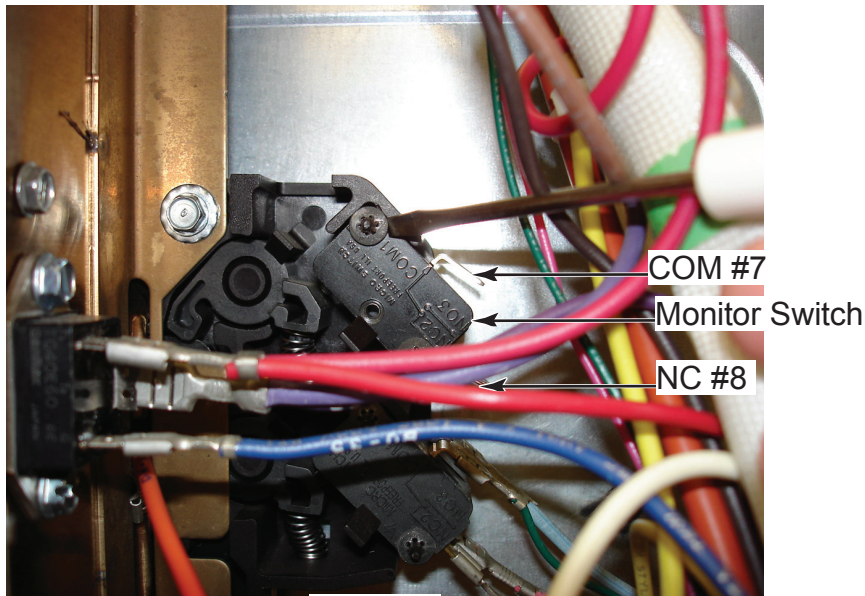

Figure 4
8. Reinstall all wires except black and white wires to new monitor switch and install new interlock switch from kit. (Figure 4).
11. Connect blue wire from monitor relay board to COM #7 terminal on monitor switch and black wire from 2 pin connector on main board to NC #8 terminal on monitor switch (Figure 4)